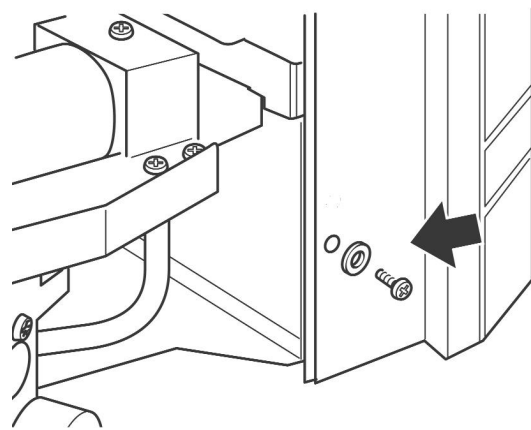

Figure 26. Fascia securing (Fascia may differ from that shown - washers only used on Bolero model)
3. Secure the fascia using the two screws and washers supplied (See figure 26).
2. Secure the fascia using the two screws supplied (See figure 26).